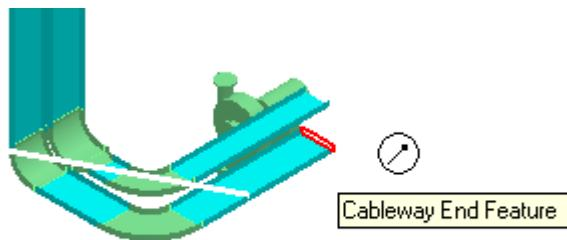

Figure 8: Cableway End Feature of the Bottom Tray
5. The system prompts for a position on cableway for entry point. Select the **Cableway End Feature** of the bottom tray, as shown in Figure 8.